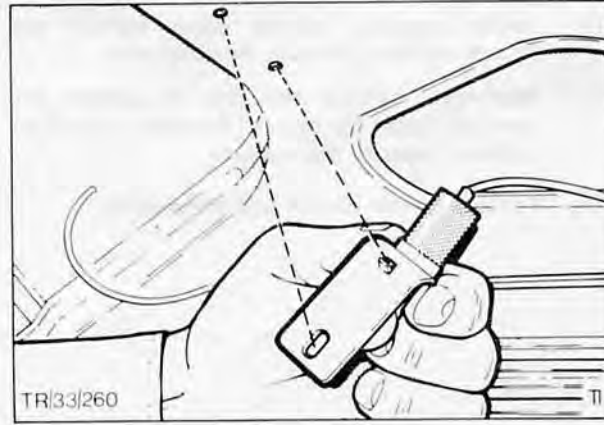

Fig. 12. Align locating peg in hole and elongated hole to screw hole
- Position lamp to hood panel, Fig. 12, and secure with single retaining screw.